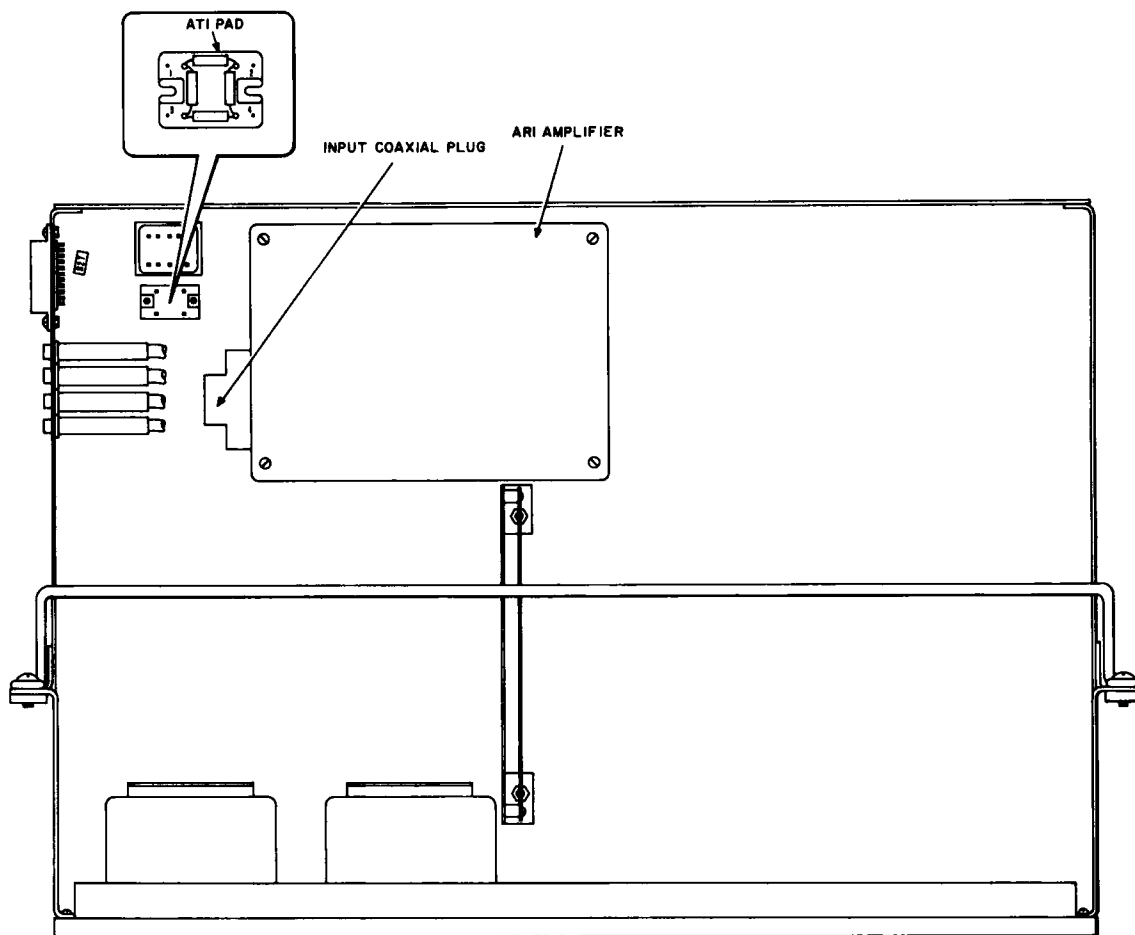
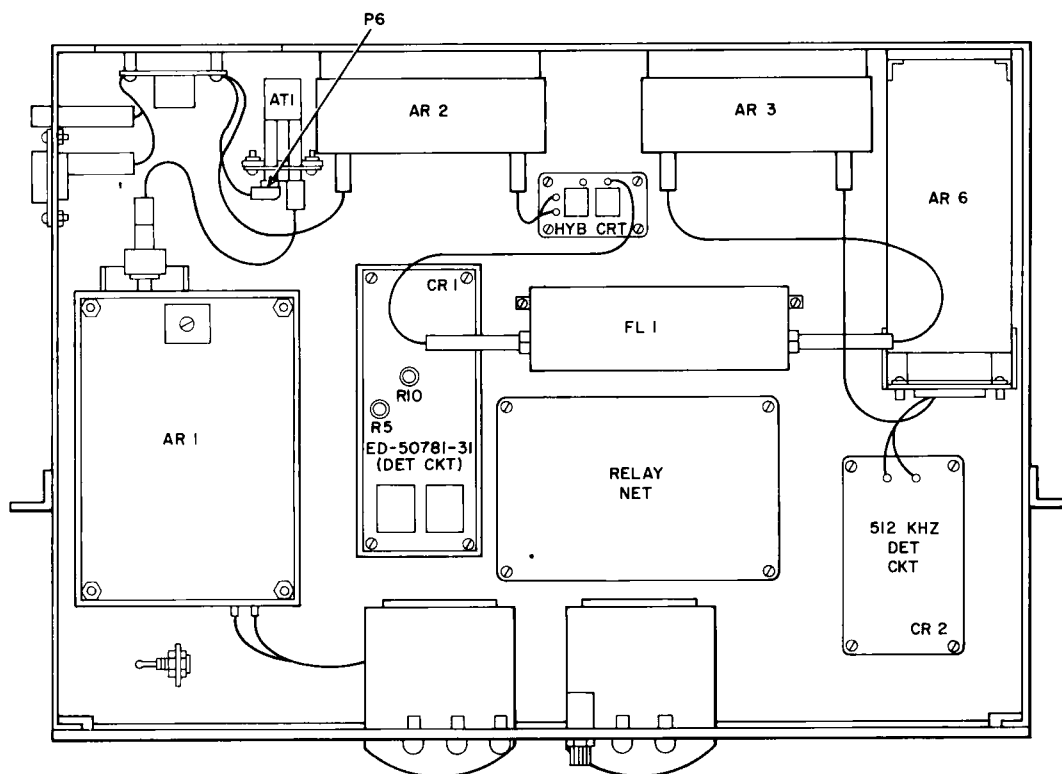

Fig. 7—Top View of JK HYB & M PNL (ED-50711-32)
Fig. 8—Pilot Indicator Panel (J68877EA-1)
41	At the rear of the associated regular line receiving bay, locate either the ED-50711-32 JK HYB & M PNL or the J68877EA-1 PIL IND panel and simulate a line failure on the associated regular line as follows: • ED-50711-32 panel: Connect a short clip lead between terminals 2 and 4 of the AT1 pad (Fig. 7). Requirement 1: The LT lamp does not light. Requirement 2: The 11.648-MHz LOW lamp lights and the 11.648-MHz meter indicates low. Note 1: Short circuiting is the preferred method of simulating a line failure; however, it may not always cause a positive failure indication. In such a case, remove the clip lead between terminals 2 and 4 and carefully pull the input coaxial plug from AR1 which is also located at the rear of the hybrid and meter panel (Fig. 7). Note 2: The ED-50711-32 JK HYB & M PNL has been manufacture discontinued. • J68877EA-1 panel: Carefully pull the coaxial plug (P6) from the input jack of AT1 (Fig. 8). Requirement 1: The LT lamp does not light. Requirement 2: The 11.648-MHz LOW lamp lights and the 11.648-MHz meter indicates low.
- **ED-50711-32 panel:** Connect a short clip lead between terminals 2 and 4 of the AT1 pad (Fig. 7).
Note 1: Short circuiting is the preferred method of simulating a line failure; however, it may not always cause a positive failure indication. In such a case, remove the clip lead between terminals 2 and 4 and **carefully** pull the input coaxial plug from AR1 which is also located at the rear of the hybrid and meter panel (Fig. 7).
- **J68877EA-1 panel:** Carefully pull the coaxial plug (P6) from the input jack of AT1 (Fig. 8).